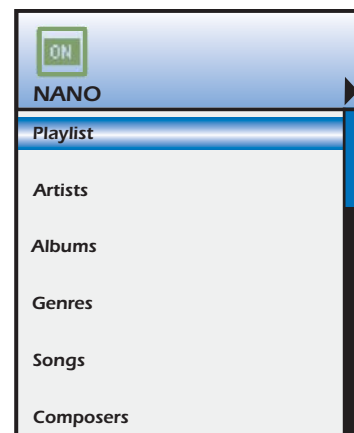

Figure 40
2. Press the **Click Button** to **select** the **highlighted iPod**. The selected iPod will appear at the top of the LCD and the iPod Main Menu will open in the LCD. (Refer to **Figure 40**)